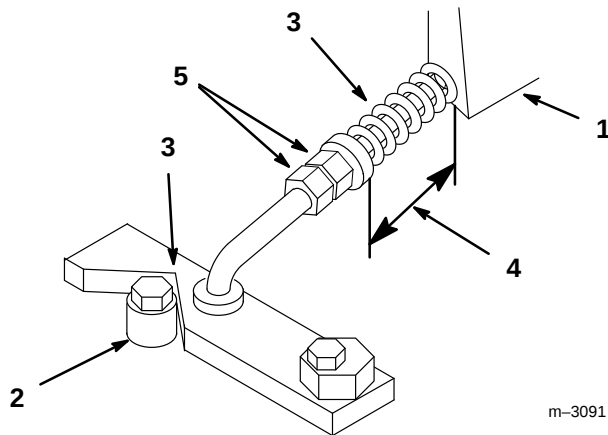

Figure 27
2. Check that roller is centered in "V" notch of left and right control plates (Fig. 27).
3. Check compressed length of left and right neutral return springs (Fig. 27).
4. Adjust jam nuts until springs are compressed 2-1/8" to 2-3/16" (54 -56 cm) (Fig. 27).